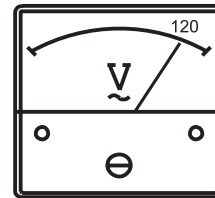

Figure 55. Voltmeter
6. The generator's **AC voltmeter** (Figure 55) will display the generator's output in **VOLTS**.